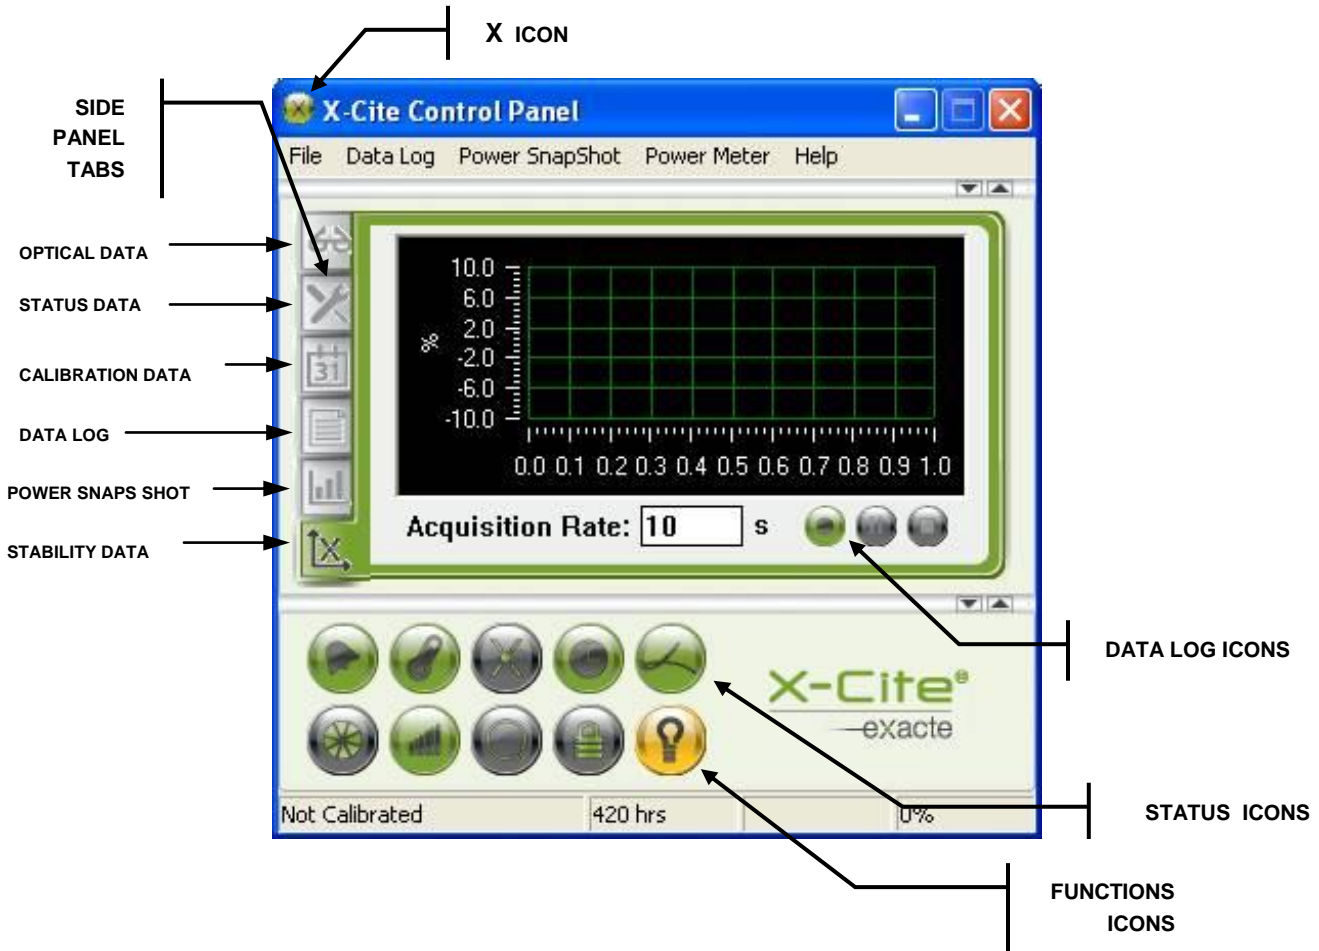

Figure 8 GUI Control Panel
4. Side Panel Tabs shown greyed-out in Figure 8 GUI Control Panel will not be operational unless the X-Cite® Optical Power Measurement System is connected. Refer to X-Cite® Optical Power Measurement System User Guide 035-00390R for instructions.